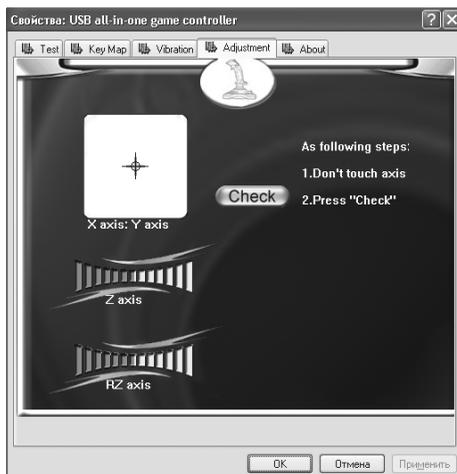

Fig. 8
• D-pad calibration. If the indicating cursor of each axis does not return to the central position or does not fix in all the four sides during tests, please click Adjustment menu (Fig. 8) for calibration: Check → Next → Check → Next → Save.